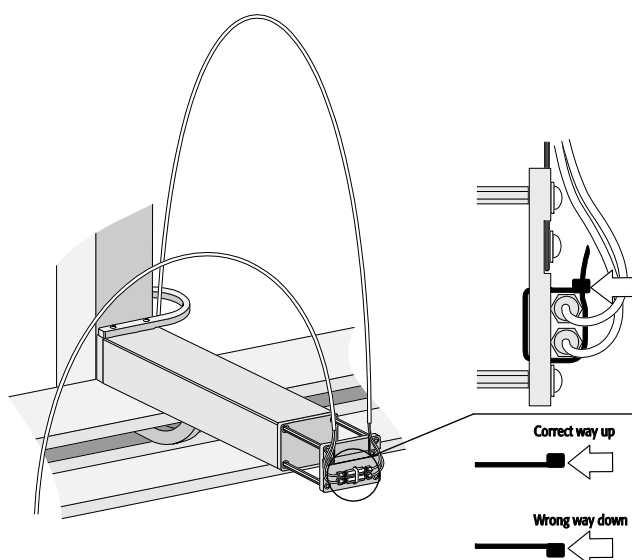

Figure 31. Fixation of the Connection Unions to the Rear Plate.
8. Tighten the low dead volume unions to the Extension Rear Plate by using the provided Cable Binder. Pay attention that the tubing is not kinked, but forms a bow in an upright U-shape as shown in Figure 31;